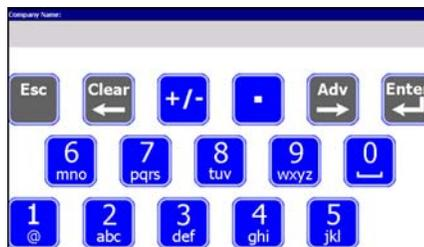

Figure 3.3 Lower case letters
6. Press the **F1** key to switch the alpha characters on the keys to lower case letters. See Figure 3.3. Press the **F1** key again to return the display to upper case letters. This works only if the entry screen allows alpha character entry. Some screens allow only numeric entry.
The password entry screen shown in Figure 3.3 appears